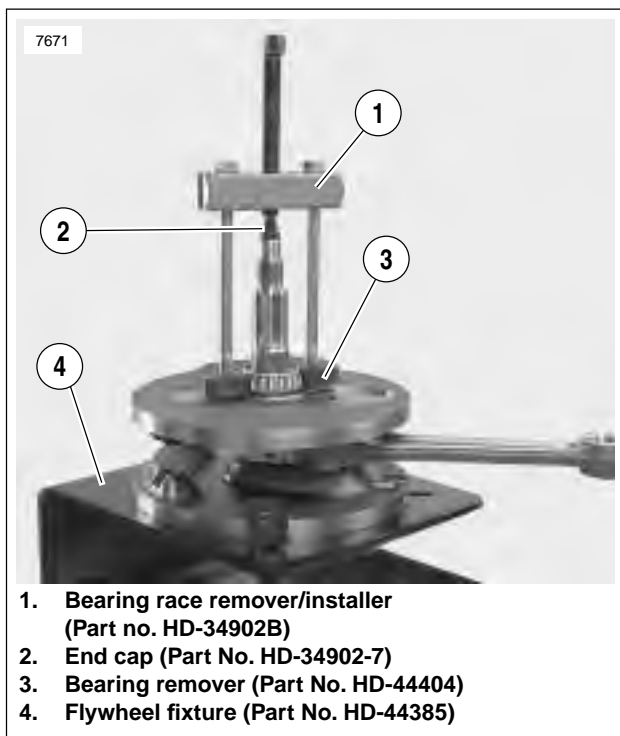

Figure 3-113. Removing Sprocket Shaft Roller Bearing
11. See Figure 3-113. Place flywheel assembly in FLY-WHEEL SUPPORT FIXTURE (Part No. HD-44385). Pull sprocket shaft bearing with SPROCKET SHAFT INNER TIMKIN BEARING REMOVER (Part No. HD-44404) and BEARING RACE REMOVER/INSTALLER (Part No. HD-34902B).